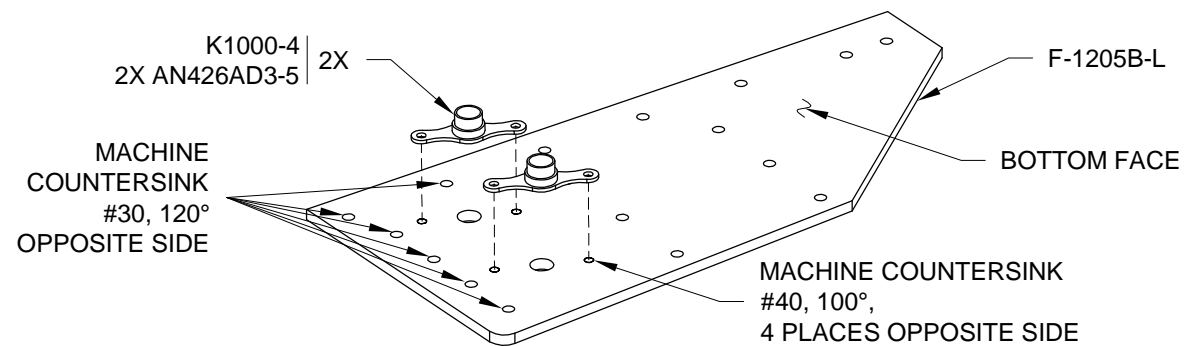

FIGURE 1: LEFT ROLL BAR ATTACH PLATE
Step 1: Machine countersink the top face of the F-1205B Roll Bar Attach Plates for the nutplate attach rivets and the locations called out in Figure 1 to create mirrored left and right parts.
Step 2: Rivet nutplates to the F-1205B-L and -R Roll Bar Attach Plates as shown in Figure 1 (Temporarily thread a bolt into the nutplate while riveting).